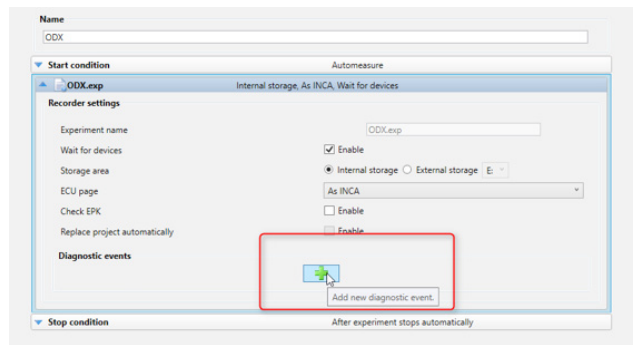

Fig. 2
- optionally, you can add some diagnostic events (clear/read fault memory before or after measurement) as Fig.2